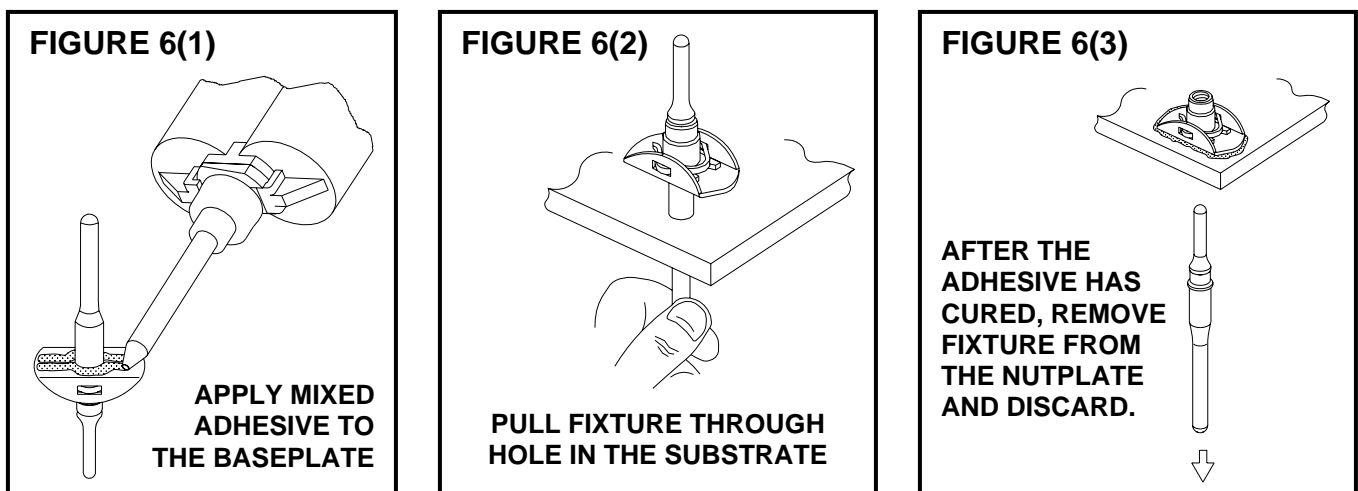

FIGURE 6. PROCEDURE FOR INSTALLATION OF STANDARD TYPE NUTPLATE
2.6.2.1 Nutplate – Standard type. Figure 6 indicates the sequential steps required to install the standard surface mount type nutplate.
2.6.2.1.1 Apply the mixed adhesive as two linear beads along the long axis of the nutplate baseplate as shown in Figure 6(1). One bead should pass around each side of the installation fixture, and the amount of material in the beads should be controlled to give a small and uniform amount of material squeeze out when the nutplate is pulled into position against the substrate as shown in Figure 6(2).
2.6.2.1.2 Each nutplate is furnished with an integral, disposable, elastomeric installation fixture to align and hold the nutplate to the surface and keep adhesive out of the hole and threads. This fixture may be removed as soon as the adhesive cures as in Figure 6(3), or left in place as a paint mask until after painting the detail part.